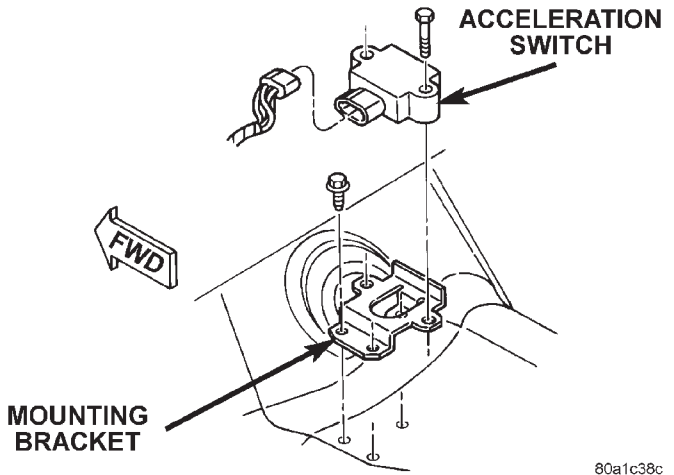

Fig. 14 Acceleration Switch
- (1) From the drivers side lift carpet back in front of the console/shifter.
- (2) Disconnect harness for switch.
- (3) Remove mounting bolts and remove switch (Fig. 14).